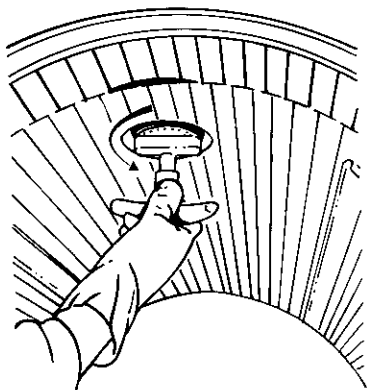

Figure 3.18 Rotate counterclockwise to remove the cap.
4. Unscrew the vaporizer cap by turning counterclockwise and remove it (Fig. 3.18).